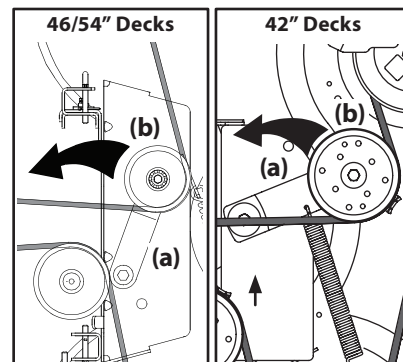

Figure 4-10
- b. Working from the middle of the tractor, pivot the idler bracket (a) and movable idler pulley (b) rearward away from the backside of the 'V' belt just far enough to lift the belt up and over the idler pulley (b). See Figure 4-10.